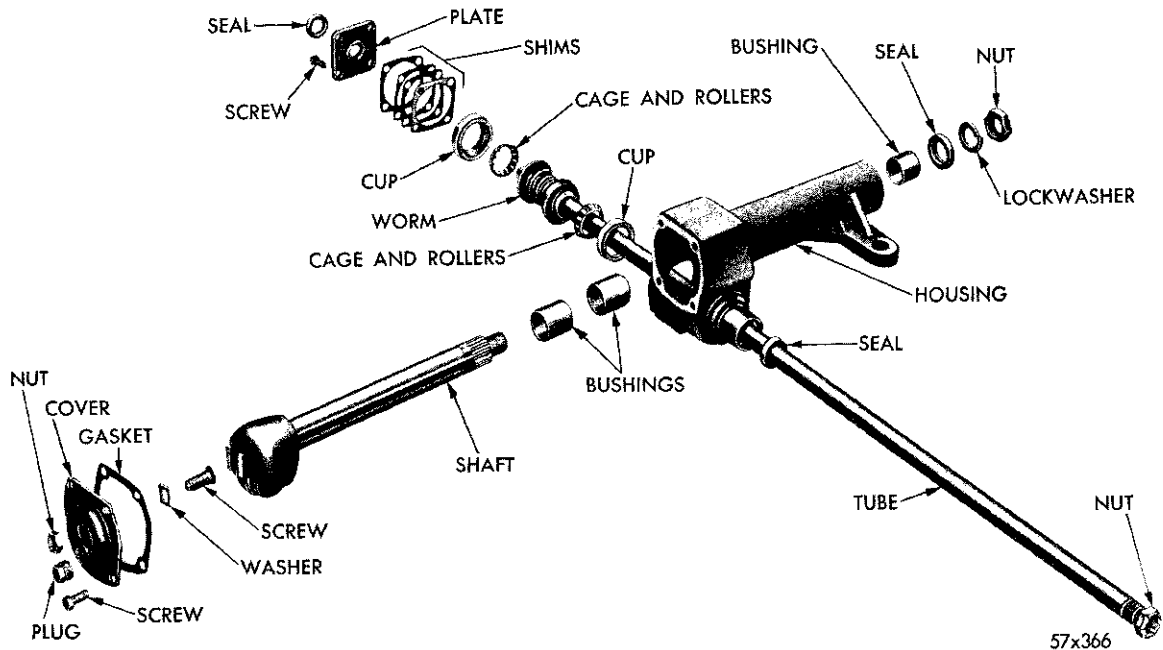

Fig. 1—Steering Gear Assembly (Disassembled View)
A modified three-tooth roller and worm steering gear assembly (Fig. 1) is used in the Chrysler 1957 cars, equipped with manual transmissions. The steering gear is mounted inboard of the frame and can be serviced without removal from car.
3. REMOVAL OF MANUAL STEERING GEAR ASSEMBLY (Figs. 1, 2 and 3)
b. Disassembly Steering Gear Assembly (Fig. 1)
c. Reassemble Steering Gear Assembly (Fig. 1)